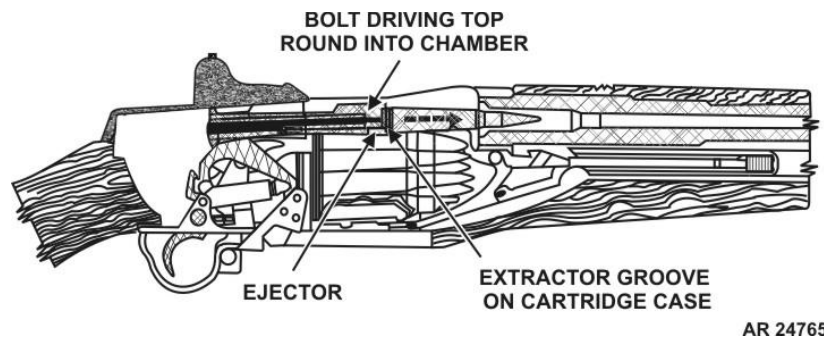

Figure 56. Chambering
- 2) **Chambering.** Chambering occurs when a round is moved into the chamber. This takes place as the bolt goes forward under force from the operating rod spring, picking up the top round in the clip and driving it forward into the chamber. Chambering is complete when the extractor snaps into the extracting groove on the cartridge case and the ejector is forced into the face of the bolt (fig 56).